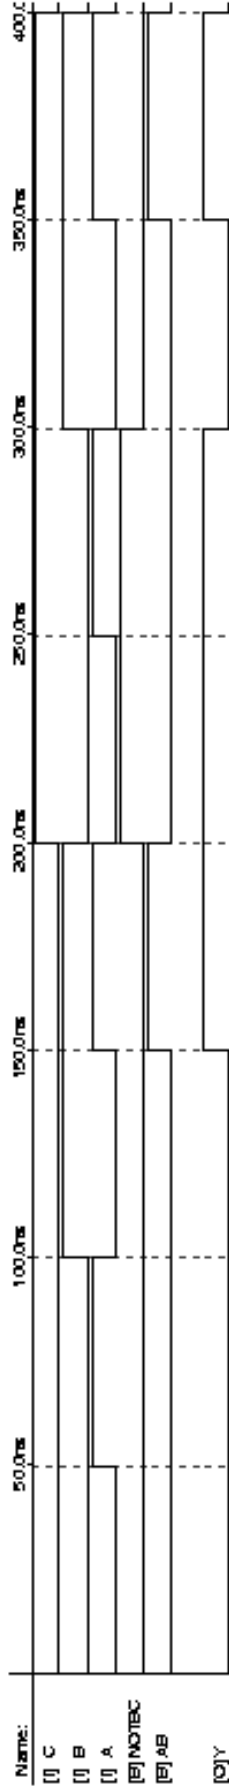

FIGURE 4. SIMULATION OUTPUT (INPUTS UNGROUPED)
- Highlight C, B and A in the Waveform Editor and then right-click and select **Group**. Give the group a name such as CBA, which identifies the order the signals were grouped. (You can verify the order later.) With the group highlighted, click the right mouse button to bring up a pop-up menu and select **Value>Count Value....** This will generate all 8 possible input combinations for the input signals. At this point, you can Ungroup your inputs (or just expand the group by clicking the +) to check that the name accurately reflects the group. For example, when CBA = 1, signals C and B should be 0 and A should be 1. You can simulate with the signals either grouped or ungrouped, whichever you prefer. See Figure 4 for an example simulation output with the input signals ungrouped.